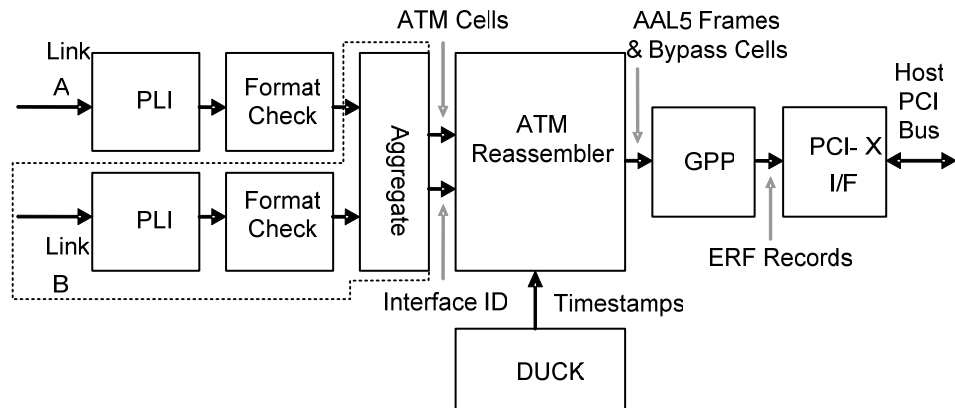

Figure 1-1. Endace DAG ATM Reassembled Basic Datapath.
**Figure`** Figure 1-1 shows the Endace DAG ATM Reassembler basic datapath.